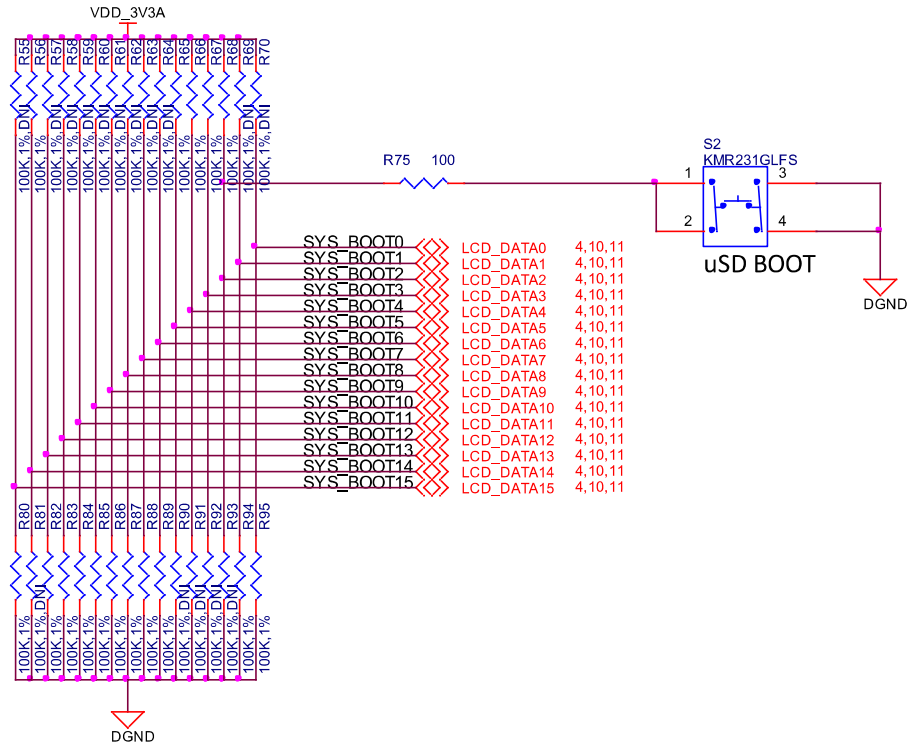

Figure 38. Processor Boot Configuration Design
**Figure 38** shows the circuitry that is involved in the boot configuration process. On power up, these pins are read by the processor to determine the boot order. S2 is used to change the level of one bit from HI to LO which changes the boot order.